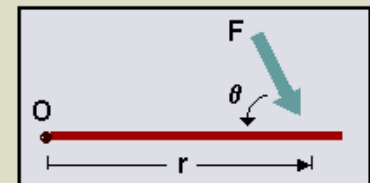

Figure 1 Definitions
• **Torque is a measure of how much a force acting on an object causes that object to rotate.** The object rotates about an axis, which we will call the **pivot point**, and will label 'O'. We will call the force 'F'. The distance from the pivot point to the point where the force acts is called the **moment arm**, and is denoted by 'r'. Note that this distance, 'r', is also a vector, and points from the axis of rotation to the point where the force acts. (Refer to Figure 1 for a pictorial representation of these definitions.)